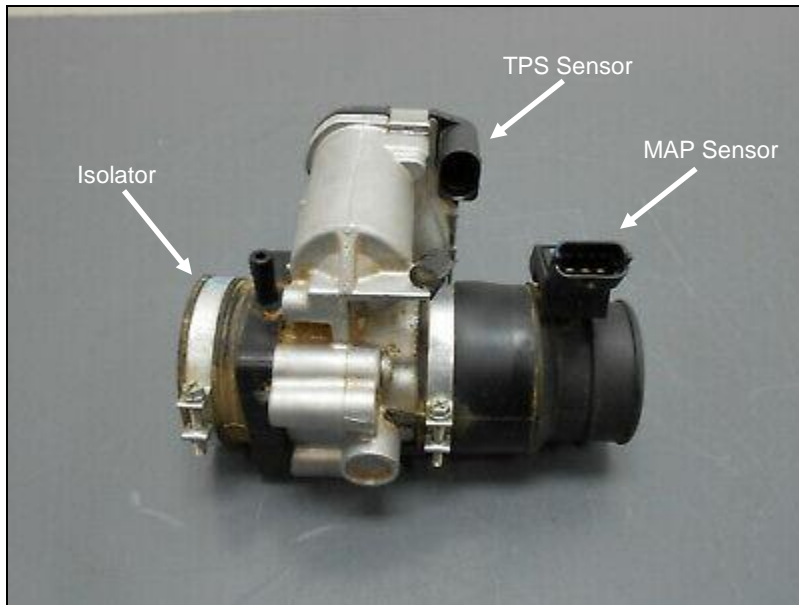

Figure 9 Throttle Body Assembly
3. Disconnect TPS and MAP sensor connector from throttle body assembly seen in **Figure 9**. Loosen clamps to remove flex tubes from throttle body. Remove the four screws holding the throttle body to the isolator.